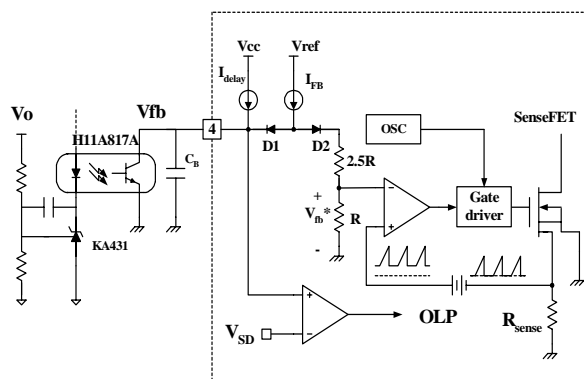

Figure 5. Pulse width modulation (PWM) circuit
2. Feedback Control : FSDM0565R employs current mode control, as shown in figure 5. An opto-coupler (such as the H11A817A) and shunt regulator (such as the KA431) are typically used to implement the feedback network. Comparing the feedback voltage with the voltage across the Rsense resistor plus an offset voltage makes it possible to control the switching duty cycle. When the reference pin voltage of the KA431 exceeds the internal reference voltage of 2.5V, the H11A817A LED current increases, thus pulling down the feedback voltage and reducing the duty cycle. This event typically happens when the input voltage is increased or the output load is decreased.
2.1 Pulse-by-pulse current limit: Because current mode control is employed, the peak current through the Sense FET is limited by the inverting input of PWM comparator (V_{fb}^*) as shown in figure 5. Assuming that the 0.9mA current source flows only through the internal resistor ($2.5R + R = 2.8 k\Omega$), the cathode voltage of diode D2 is about 2.5V. Since D1 is blocked when the feedback voltage (V_{fb}) exceeds 2.5V, the maximum voltage of the cathode of D2 is clamped at this voltage, thus clamping V_{fb}^* . Therefore, the peak value of the current through the Sense FET is limited.